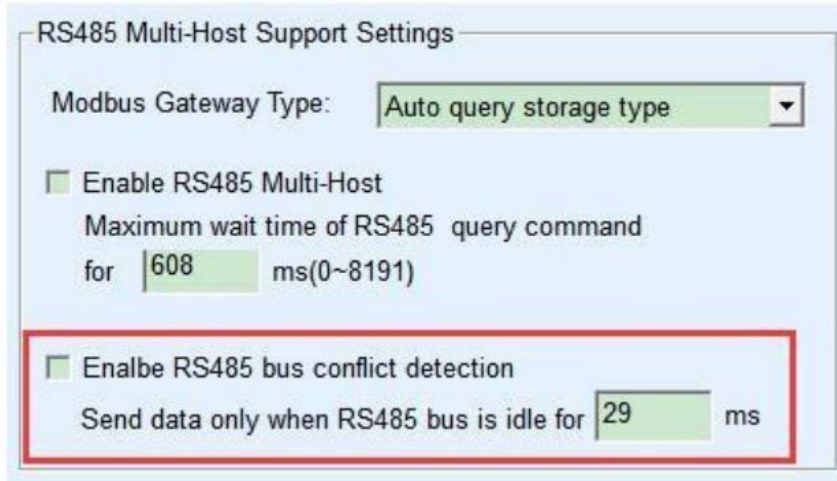

Figure 51 RS485 anti-collision idle time
1. Figure 51 shows the "RS485 bus anti-collision time". Generally, it can be set to twice the "Packet Interval" in the lower right corner of the parameter configuration interface, but the minimum should not be less than 20.